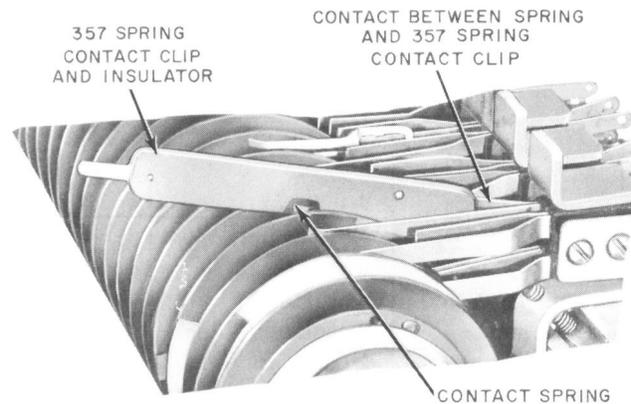

Fig. 17—Method of Using the 357-Contact Clip and Insulator for Sequence Switches
3.08 Procedure for Making Connections to Sequence Switch Springs Using the 357 Contact Clip and Insulator: Fig. 17